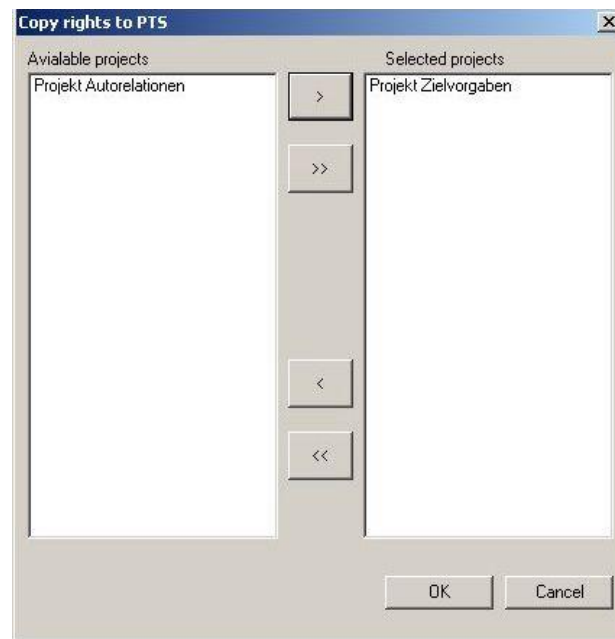

Figure 15: Select Project Dialog
- 2) Select **Copy Rights To Slave PTS** from the context menu. In the **Copy Rights to PTS** dialog, all projects are shown which have been created with this plantype set. *Please refer to the Figure 15.*